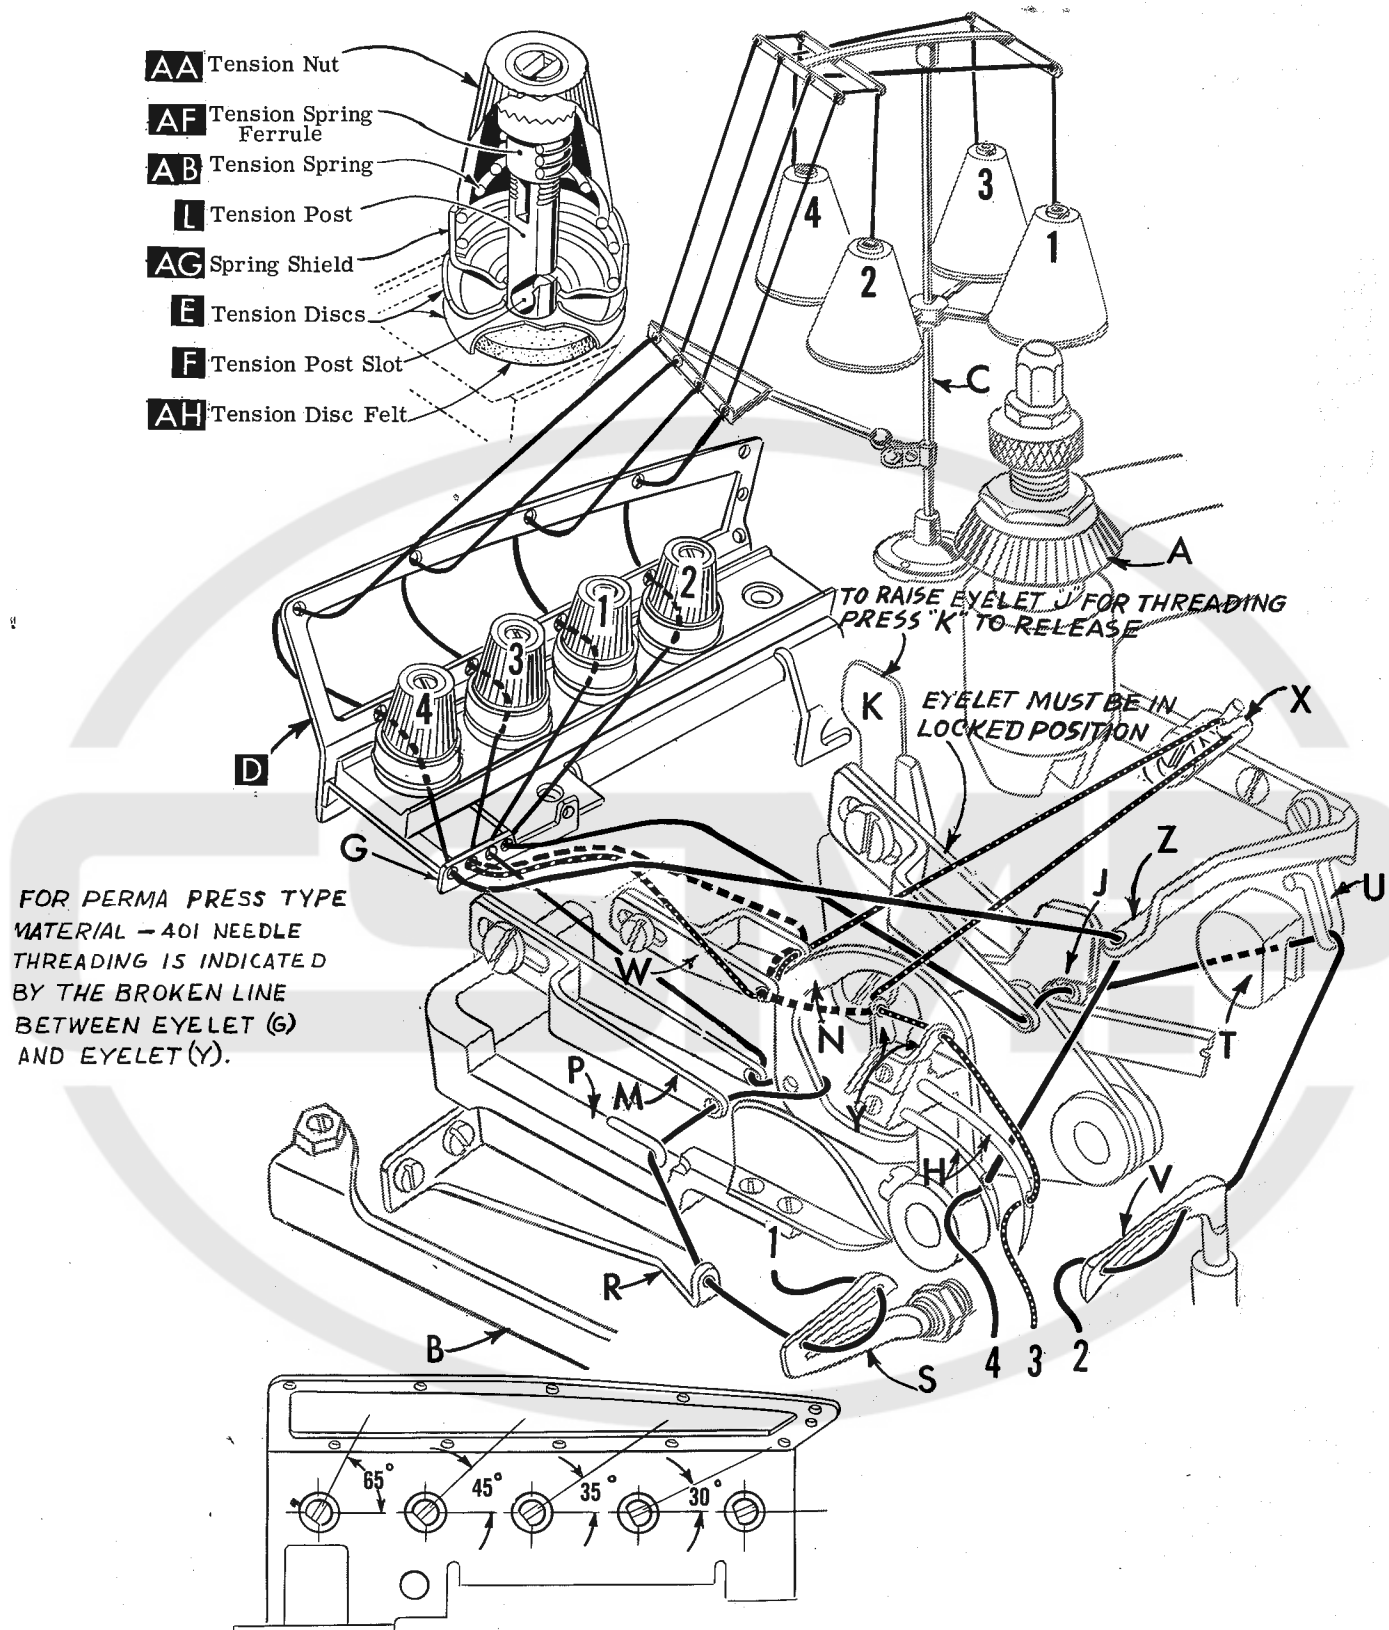
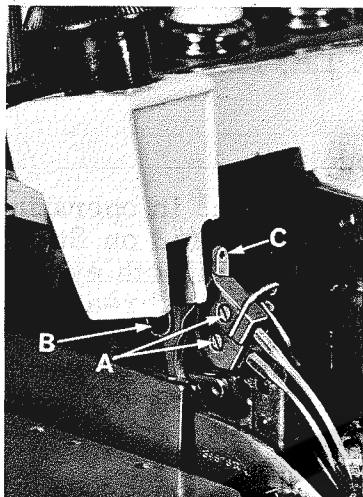
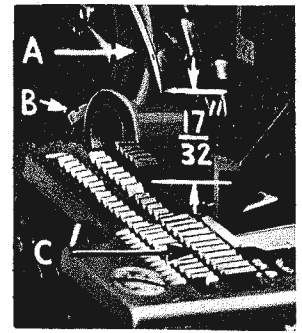

Fig. 1
Fig. 2
Fig. 4
Release pressure on presser foot by turning the presser foot release bushing (A, Fig. 1) and swinging presser arm (B) out of position. Turn handwheel in operating direction (away from operator) until needle holding screws (A, Fig. 2) are just exposed from behind presser spring plunger (B) and accessible to screwdriver. Loosen screw and withdraw needle. When replacing needles observe the position of the flat which is at the left of the shank and be sure the needle is inserted the full depth to the combination eyelet and stop plate (C).
Only parts involved in threading are shown in threading diagrams (Fig. 1 and 1A). Parts are placed in their relative positions for clarity.
The amount of tension on the needle and looper threads is regulated by the knurled tension nuts (AA, Fig. 1). Tension on the threads should be only enough to secure proper stitch formation. Using a postal scale, the measurements are taken with the needles at the top of their stroke and pulled in the direction as indicated. As a start the tensions may be as follows:
Release the pressure on presser arm and swing arm out of position. Insert both needles (Type 158 GJ for the 401 stitch and Type 154 GAS for the overedge stitch) into the left and right holes, respectively, of the needle driving arm (A, Fig. 4), so that the butt ends contact the stop plate. Secure needles in this position with clamp screws (A, Fig. 2).
With throat plate assembled in position, the needles should center in the throat plate needle holes. To align the needles, loosen clamp screw (B, Fig. 4) and move needle driving arm to the left or right as required. Gauge No. 21227 CR should be used to set the needle driving arm at the correct height. To use this gauge remove the left needle (401 stitch) and insert the gauge in its place. Be sure gauge seats against the stop plate. Turn the handwheel until needle driving arm is at its lowest position, at this point the gauge should just contact the throat plate. Tighten clamp screw (B, Fig. 4) after correct height has been obtained and needles have been centered in the throat plate needle holes. Remove throat plate.
If gauge No. 21227 CR is not available the correct needle height can be obtained by measuring $17/32$ inch from the 401 needle point (left needle) to the top of the throat plate, when needle driving arm is at its highest point of travel (Fig. 4).
For convenience the looper may now be threaded as shown in Fig. 1 and as described under paragraph "To Thread 401 Looper". Replace differential feed dog, throat plate, lower knife holder and reset upper knife. Check cutting action with thread.